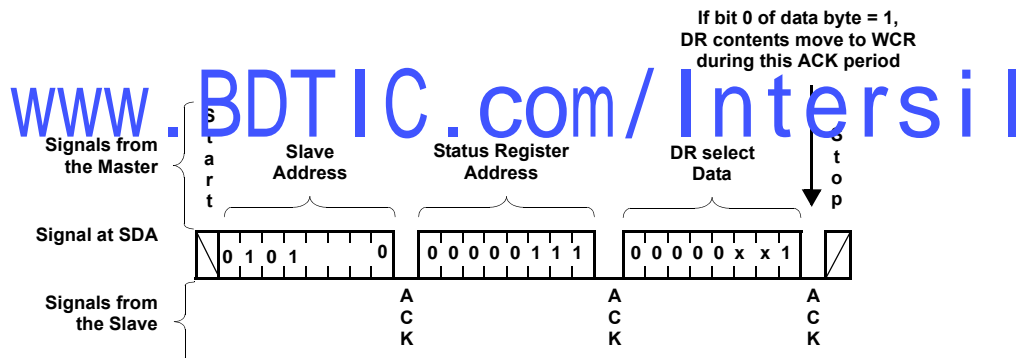

FIGURE 6. STATUS REGISTER WRITE (USES STANDARD BYTE WRITE SEQUENCE TO SET UP ACCESS TO A DATA REGISTER)
1. Load the status register (using a write command) to select the row (See Figure 6)